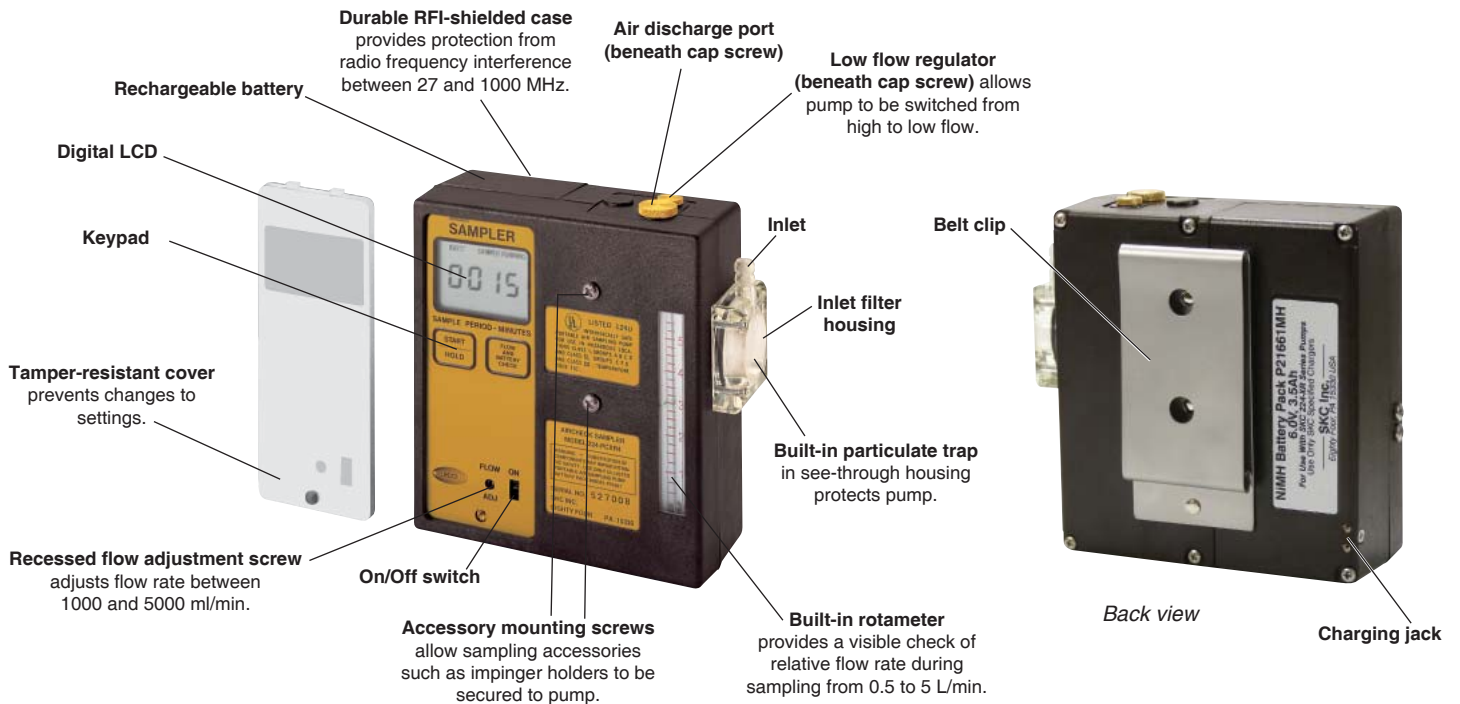

Figure 1. Front and Back Views of PCXR4 Universal Sample Pump
The PCXR4 Universal Sample Pump (Figure 1) is a constant flow (from 5 to 5000 ml/min) air sampler suitable for a broad range of applications. It is ideal for industrial hygiene studies as well as environmental testing.
3. Insert the charging plug end of the cable into the jack on the back of the pump's battery pack (Figure 1).
Turn Pump Power On/Off (Figure 1)
1. To ensure the pump is set for high flow, remove the cap screw (*Figure 1*) covering the regulator valve and turn the exposed screw **clockwise** until it stops. Do not overtighten. *See right.*
7. Set the flow rate using the flow adjustment screw (*Figure 1*) until the calibrator indicates the method-specified flow rate. Take a minimum of three readings and record the average flow rate, as per OSHA/NIOSH instructions.
- b. **When using impingers, an in-line trap (SKC Cat. No. 225-22 or 225-22-01) is required to prevent fumes from accidentally being drawn into the sampler.** Place the in-line trap between the pump and the impinger. Mount the impinger and trap to the face of the sampler using the accessory mounting screws (Figure 1) or place them in a holster at the worker's waist.
3. With the LCD displaying HOLD, start sampling by pressing Start/Hold (Figure 1). SAMPLE RUNNING will be displayed. Record the start time. The elapsed sampling time will be shown on the LCD.